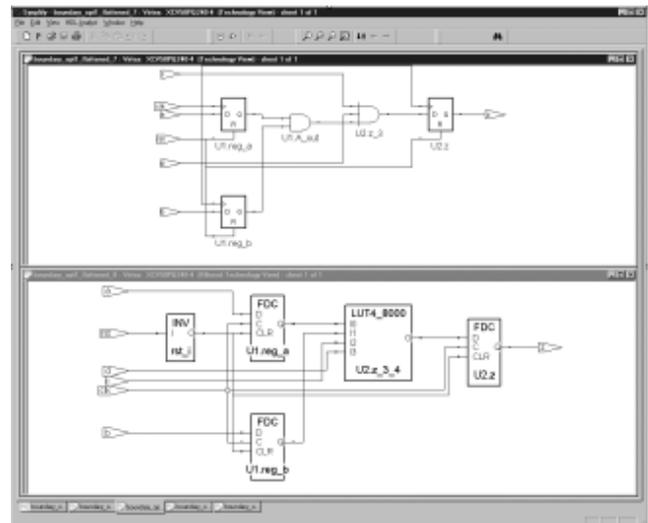

Figure 1
optimizing the double inversion, resulting in a final circuit that has two inverters instead of a more optimal circuit with zero inverters. See **Figures 1 and 2** for more examples.
- The "firm" option prevents a level of hierarchy from being dissolved, however, simple boolean optimizations will still take place across hierarchical boundaries (see **Figure 1**).